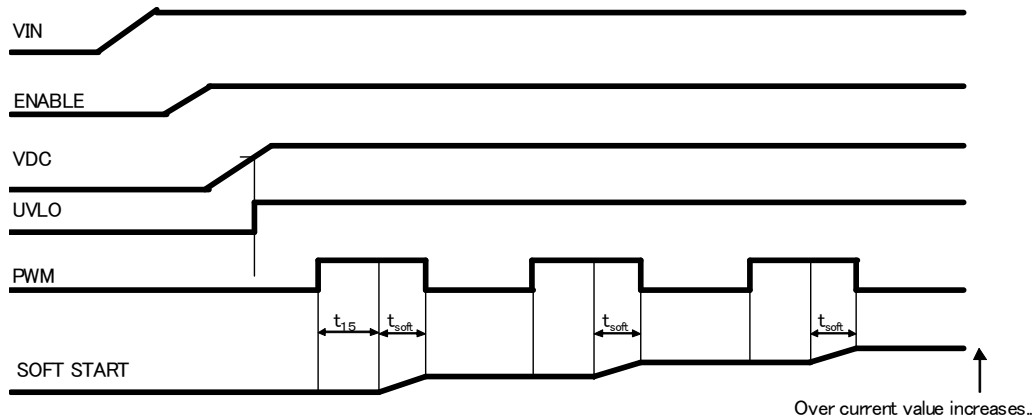

Figure 25. Soft start
- Regulator (VDC) operates after ENABLE=H. Inside circuit operates after releasing UVLO. When IC boosts after releasing UVLO, soft start function operates. (Refer to Figure 15, 9P). Soft start circuit needs t_{15} (more than 15 μ s) as Figure 25. shows. Soft start operates for t_{soft} time. Please make H width of PWM more than 15 μ s until soft start finishes.